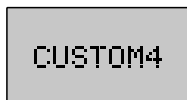

Fig 22
3. Dot matrix display showing your current status (Fig 22)